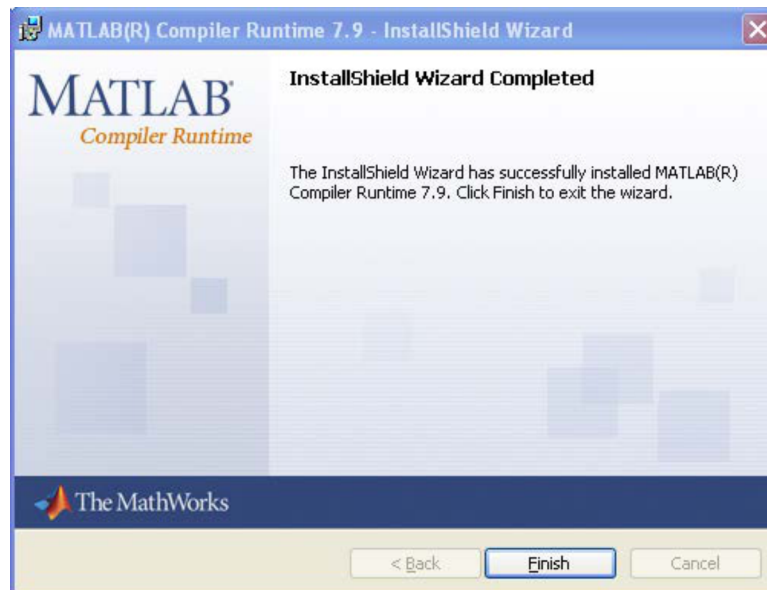

Figure 7. MCR GUI, Finish Screen
- You will receive a *Finish* screen similar to Figure 7 when the Installer GUI and the MCR installation is complete.